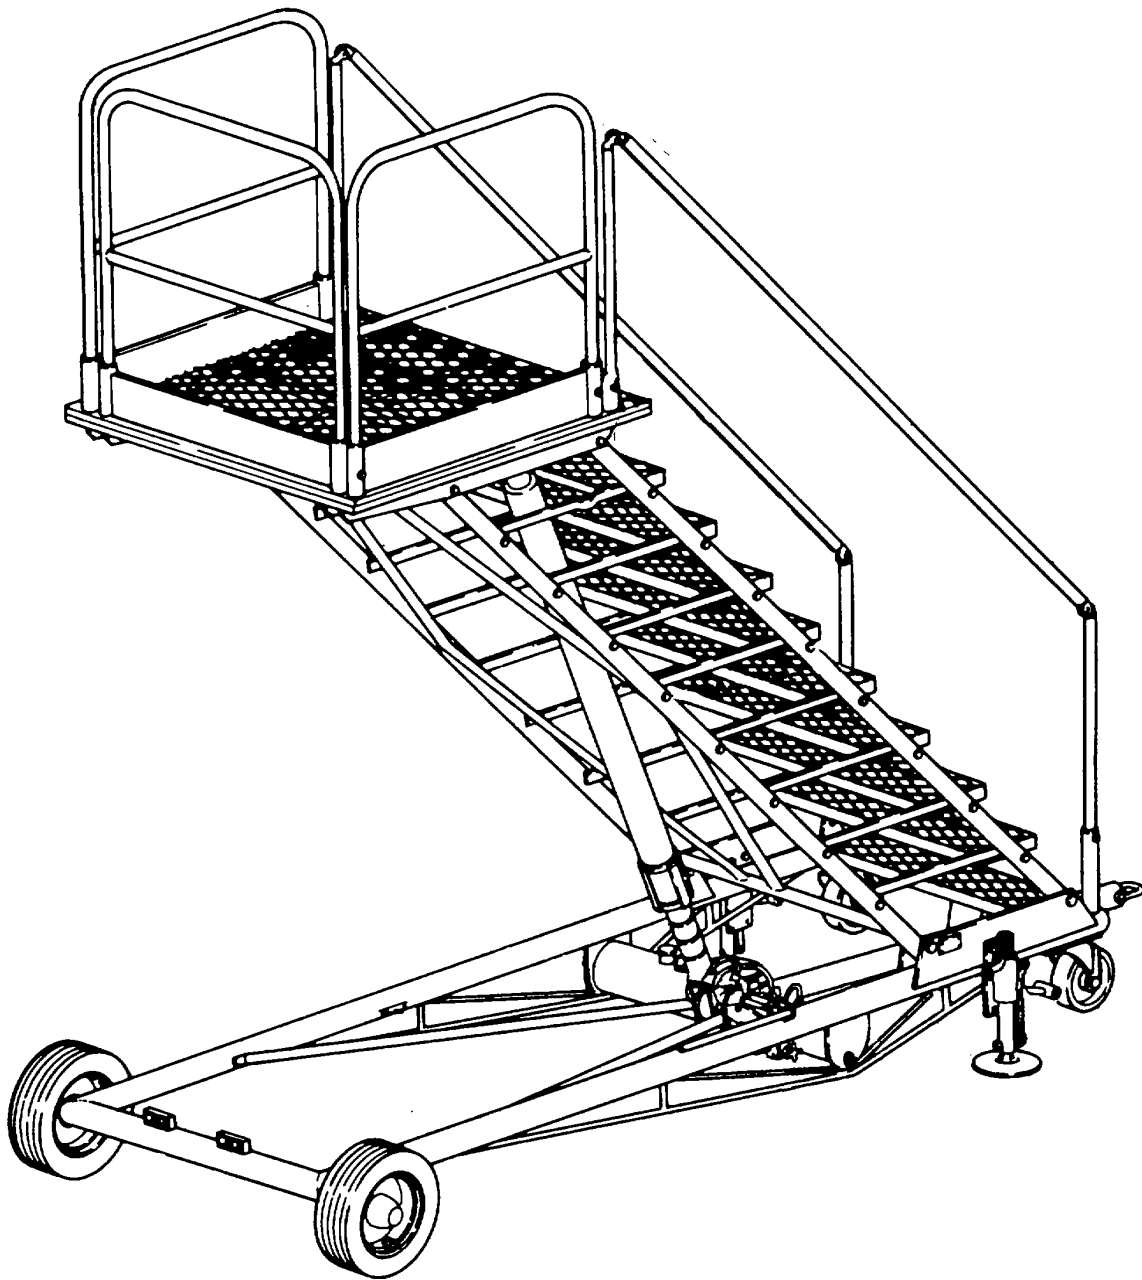

Figure 9-1. Type B-1 Maintenance Platform
*(1) Maintenance platform, type B-1.* The B-1 maintenance platform, as shown in figure 9-1, is a portable, variable-height, stair and platform assembly. The work platform is hydraulically raised and lowered, and is accessed by an adjustable stair assembly.